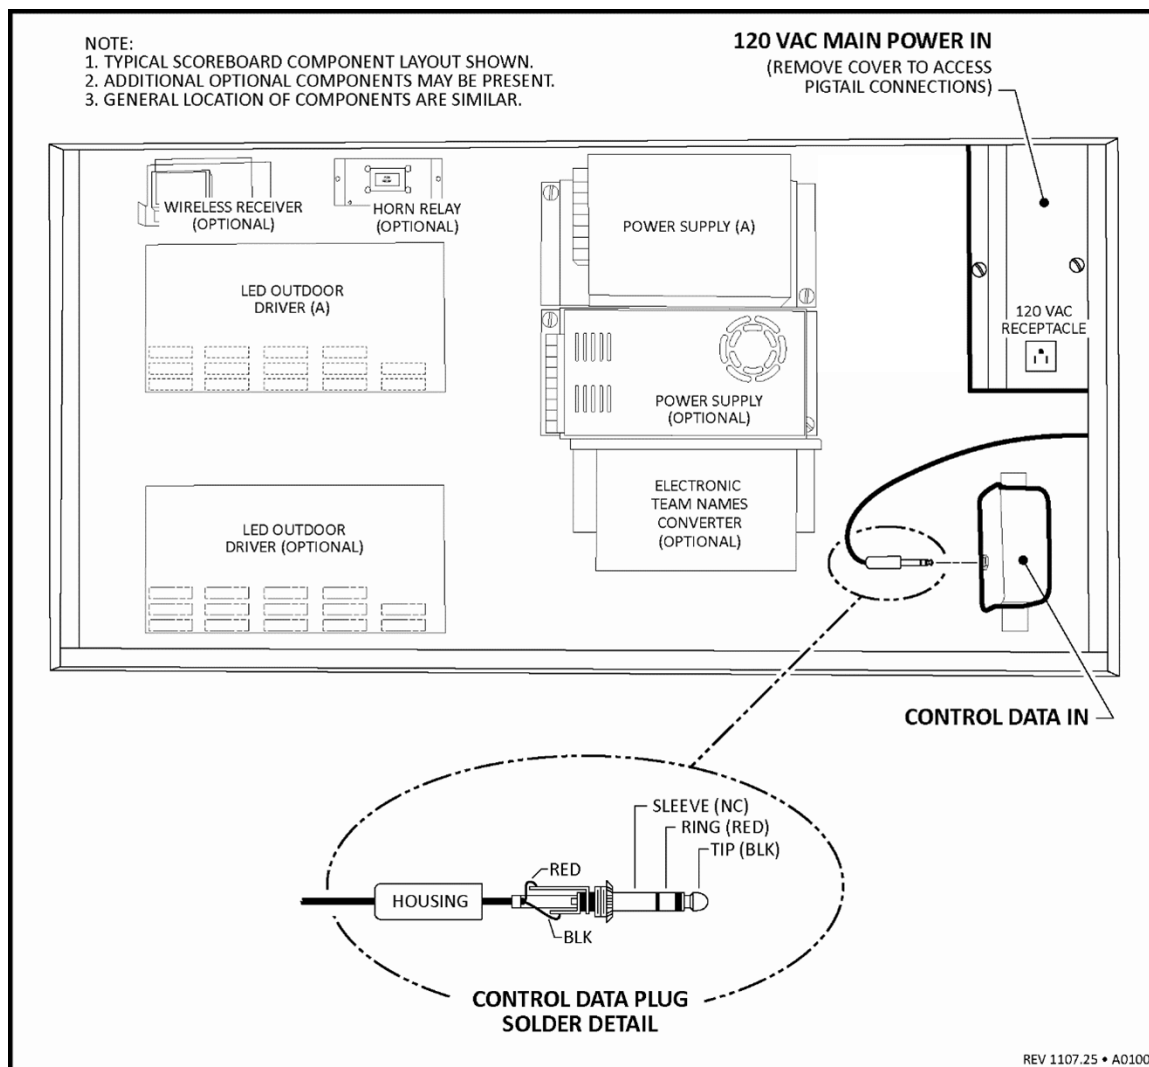

FIGURE 9 — LOCATION OF MAIN POWER IN AND CONTROL DATA IN
- Remove the service door to access the control data and power connections. Refer to Figure 9 below.